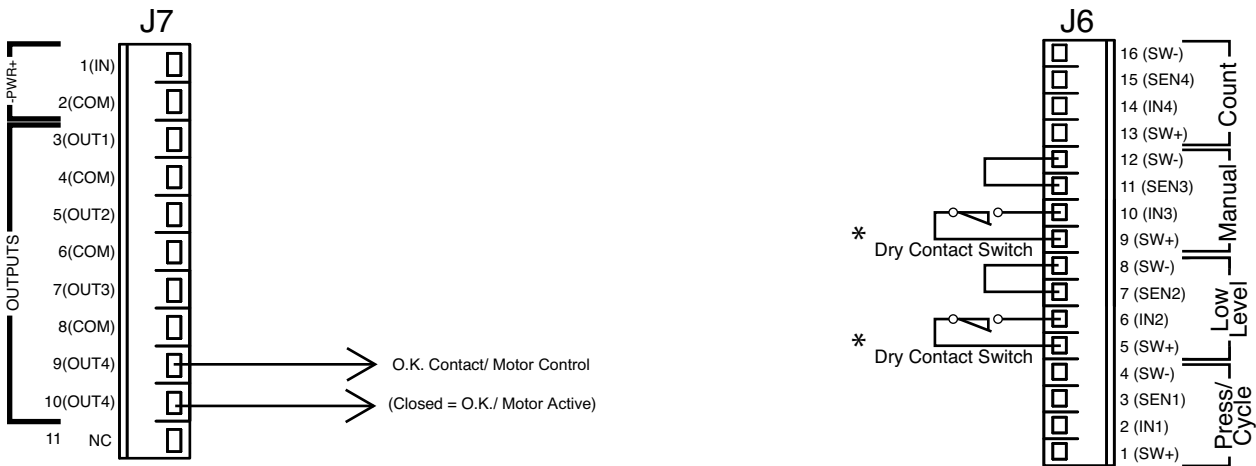

FIG. 17: *Dry Contact, FIG. 8 shown. For other configuration, see FIG. 9 or FIG. 10.
Table 4 shows additional (optional) setup configurations (FIG. 17 - FIG. 19).
Low Level Switch	FIG. 17, page 15
External Manual Run	FIG. 17, page 15
O.K. Contact Out	FIG. 17, page 15
Motor Control Contact Out	FIG. 17, page 15